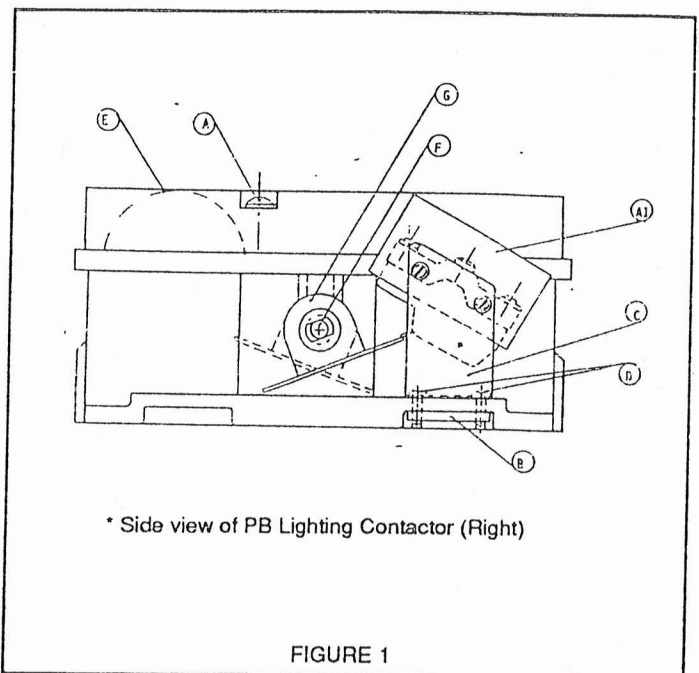

FIGURE 1
PBX1 Auxiliary Contact Option (See Figure 1)
2. Remove the cover, by unscrewing the mounting screws (A).
3. Hold the nut plate (B) on the bottom side of the top right hand side pocket, see fig. 1. Place the auxiliary contact assembly A1 on the top side of the pocket. Secure bracket (C) to the nut plate by means of two screws (D).
4. Using the manual operator (E) put the contactor into closed position.
5. Remove screw (F) on the rockershaft. Replace the brass washer with the auxiliary contact cam (G), with the cam side towards the base. Ensure that the notched hole in the cam plate engages properly with the flats on the rocket shaft. Reinstall screw (F) and the steel washer. Check for proper actuation of the auxiliary contact (with auxiliary contact cam) by opening and closing the contacts with the manual operator.